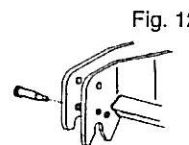

Fig. 12
2. Category III – Standard (see fig. 12 & 13)